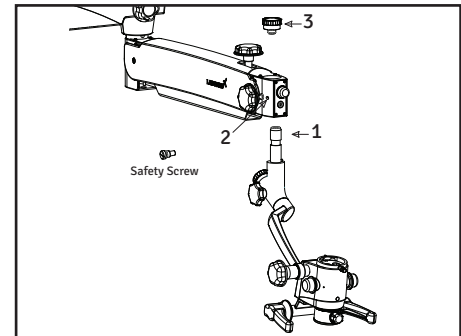

Fig 4
4. Remove the inclined coupling assembly from its packaging and follow the instructions below (see Fig. 4.)
- A. Install the coupling by sliding the shaft (1) into the suspension arm.
- B. Lock the inclined coupling with the threaded knob (3).
- C. Make sure the safety screw is installed and tightened at position (2) so the coupling does not detach if knob (3) is accidentally unscrewed.